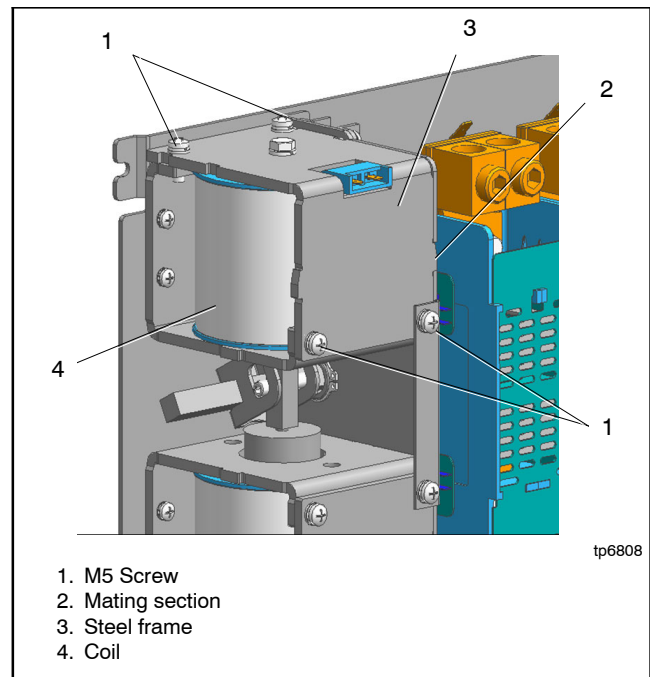

Figure 7-70 Coil and Frame
1. Remove four M5 screws. See Figure 7-70.
2. Remove the steel frame by sliding toward the left. The frame is fit to the body at the mating section. See Figure 7-70.